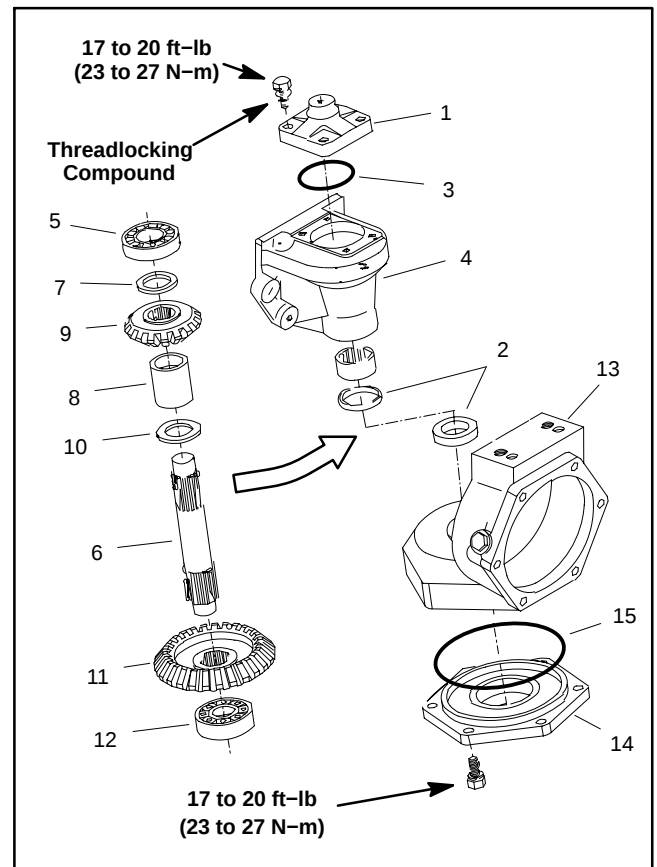

Figure 66
5. Remove the knuckle pin mounting screws and the knuckle pin. Remove and discard o-ring (Fig. 66).
10. Remove and discard bevel gear shaft seals from bevel gear case and axle case (Fig. 66).